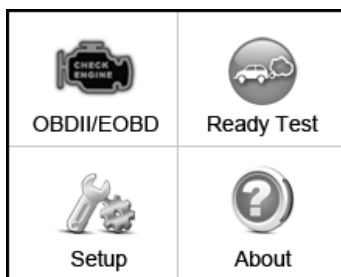

Figure 3.1
When the scan tool is powered on, it displays a **Main Screen**. (Figure 3.1)
- 1) From **Main Screen**, use the **SCROLL** button to select **About** and press the **ENTER/Exit** button; wait for the **About** screen to appear. (Figure 3.1)